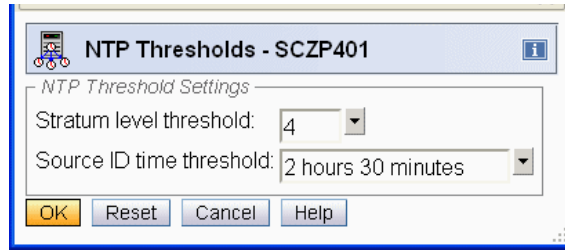

Figure 1-40 NTP thresholds
14. Setting an NTP threshold can be considered optional and is intended to tolerate certain NTP status changes that can be considered as normal. In the NTP Threshold panel select a Stratum level that must be reached before hardware and Operating System Messages are generated. Similarly, select a time period that must be reached before hardware and Operating System Messages are generated if the Source ID from a target NTP server changes. Select the **Stratum level threshold** and **Source ID time threshold** from the pull-down menu and select **OK** (Figure 1-40 on page 25).